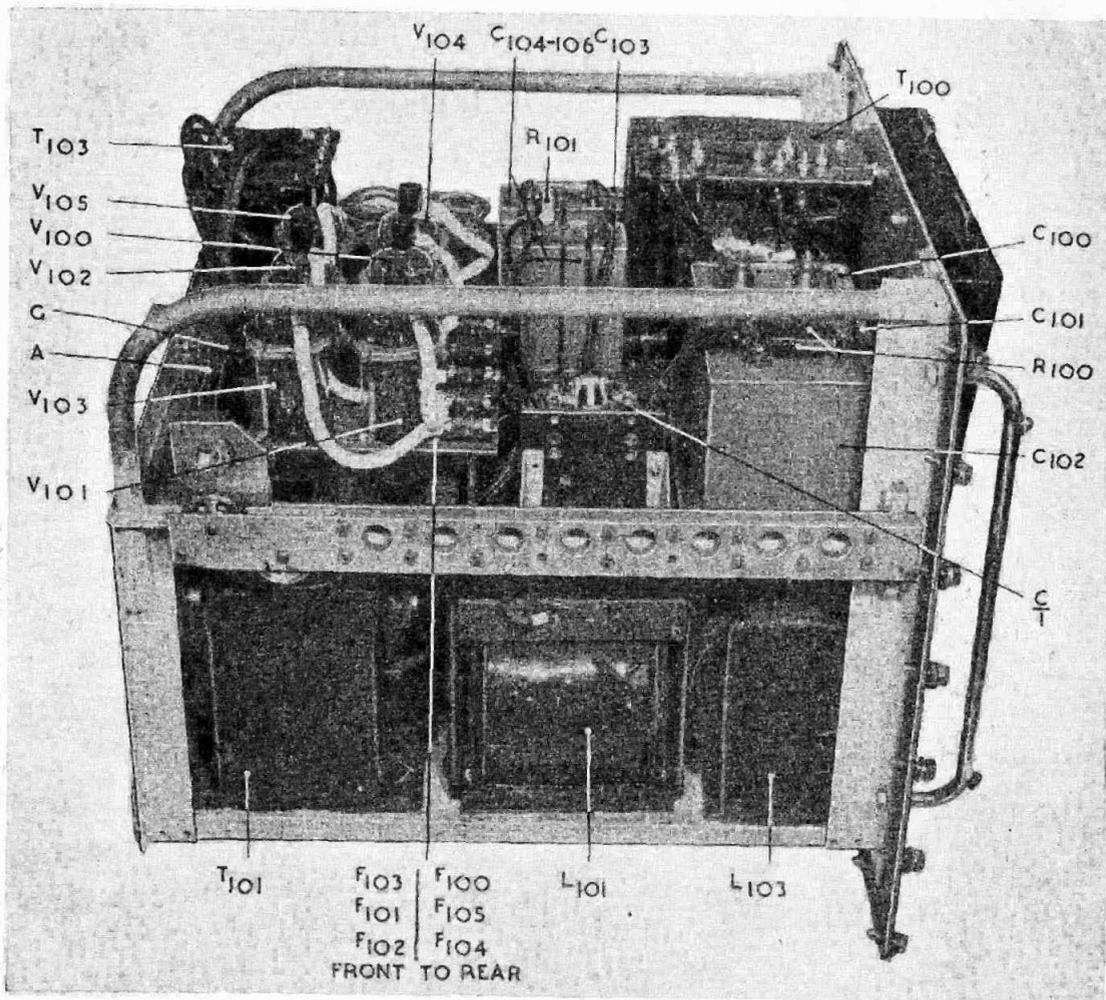

Fig. 30. Power unit, Type 381, left-hand view
**134.** The power unit is shown in *fig. 30* and *31*. Plugs A and G for the connectors to the main unit can be seen in *fig. 20*. The two drawers containing calibration charts of